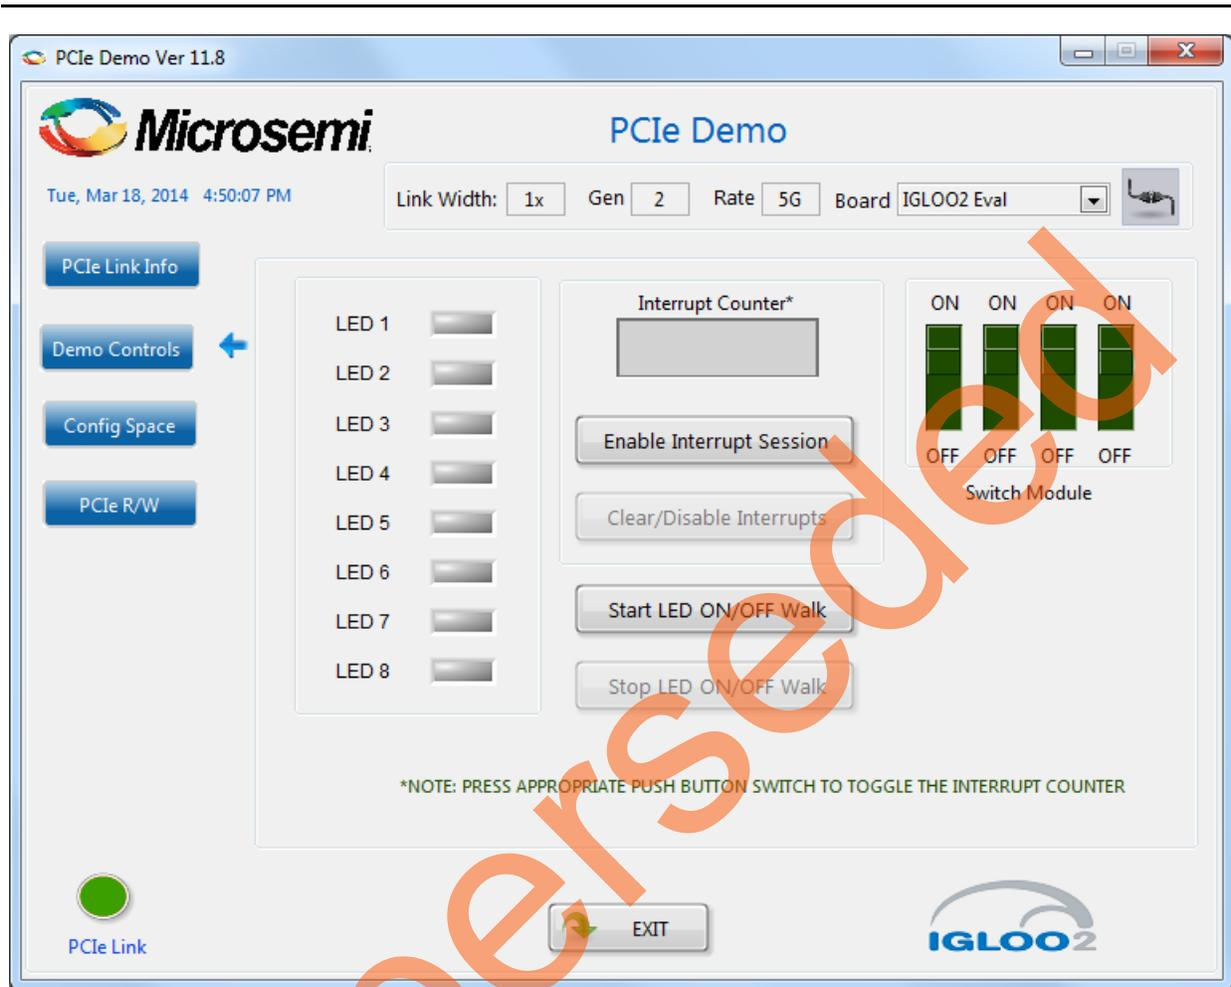

Figure 62 • Demo Controls
- Clicking **Demo Controls** in the GUI displays the LED options and DIP switch positions as shown in Figure 62.